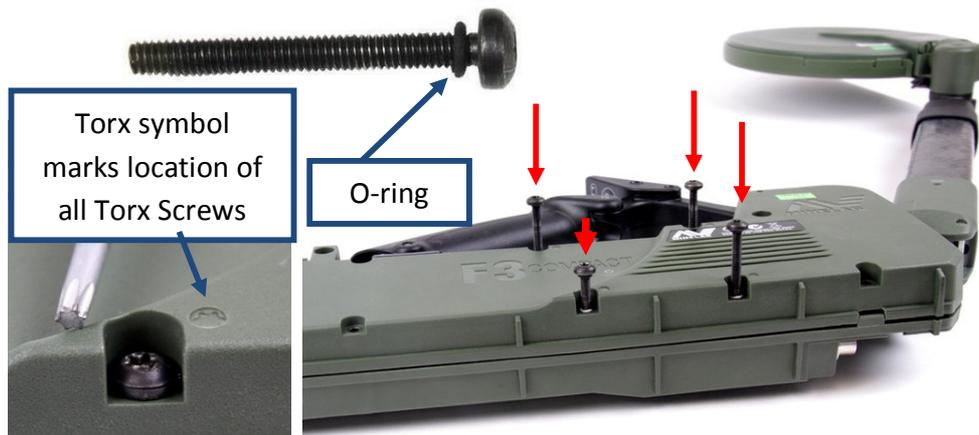

Figure 24: Inserting Torx Screws.
- Identify the four (4) Torx (star) screws and check they all have O-rings fitted. Insert the four (4) Torx screws into the right side of the detector. The Torx screw positions have a Torx symbol next to their screw holes. Insert the three long screws first. Figure 24.